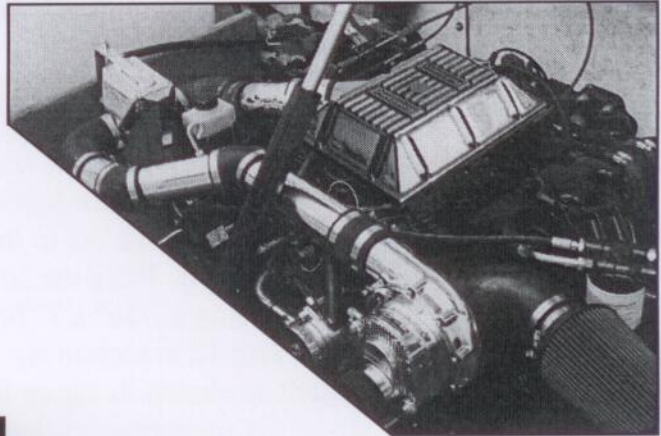

FIGURE E2
1. Review figures E2-E4 before starting. Place supplied 4" inlet elbow over ProCharger inlet. Position the elbow so that it points upward and/or outward to avoid the exhaust manifold and, if applicable, deck above when the filter is installed. If necessary, this elbow can be trimmed to obtain the proper clearance. Temporarily secure with a clamp. On the inlet elbow, position and mark the location of the breather fittings (the plastic 3/8" 90 deg fittings). The fittings should be positioned so that one of the fittings routes to the port side breather and the other to the breather fitting on the throttle body. Remove the elbow and drill holes for the 3/8" fittings using a 5/16" drill bit. Insert the fittings and re-install the inlet elbow.
2. Determine where you are going to mount the intercooler. The intercooler has several mounting tabs attached to it. Find a place where these tabs can be used, it will be out of the way of the engine, and sits close to the level of the outlet of the ProCharger. Generally, you would like to keep it somewhat close to the engine to minimize the distance the charge air has to flow and the number of bends it has to make. Refer to figure E2 for an example. After you have determined the mounting location, bolt or screw the side tabs to the mounting surface. Included in the kit is a straight piece of strap. At the bottom of the intercooler is another tab. Bend and drill the strap so that it can be bolted to the bottom tab and to another mounting surface.